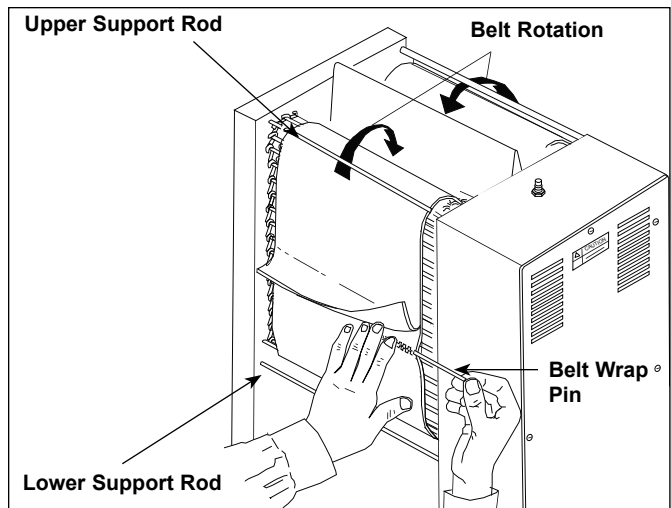

Figure 12. Installing Belt Wrap
5. The belt wraps must be installed properly in order to work correctly (Figure 12).
6. Install the belt wraps as shown in Figures 12 & 13.